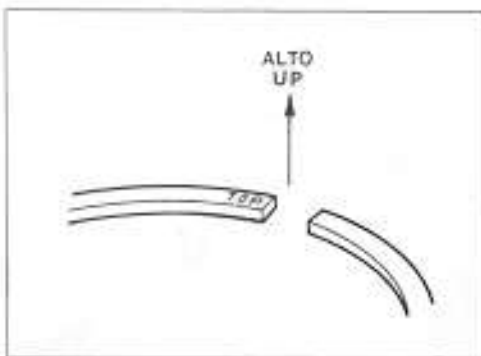

Fig. 65
- Install the rings into the grooves of the pistons, taking care to locate them the correct way round (the step in second ring should be facing downwards). Bear in mind that if there is the word TOP, stamped on the ring, it should be pointing upward (see figure 65).